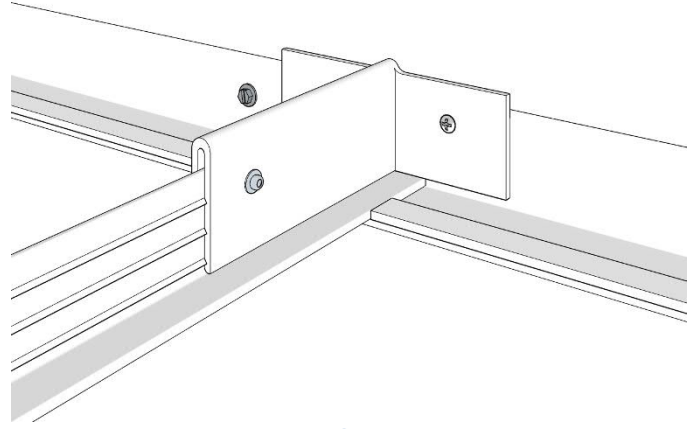

FIG. 30
1. The **Seismic T-Junction** introduces the **Seismic-Step**. **Mainrails** and **Crossrails** ride on the **Wallrail** ledge. This is the **Seismic-Step**. The **T-Clamp** should mount tight to the **Wallrail** and be securely attached to the wall to prevent shifting during the grid installation. The **Mainrail** and or **Crossrail** positioned tight to the **Wallrail** and will be attached with a **Lock Rivet** and **Backup Washer**. This mounting **WILL NOT** provide a flush rail finish. Use appropriate fasteners for job conditions. The **Wallrail** will then be fitted with 1/8" (3 mm) **Closure Gasket** to provide a closed seal at the lay-in ceiling panel and the **Wallrail**. **FIG. 30**